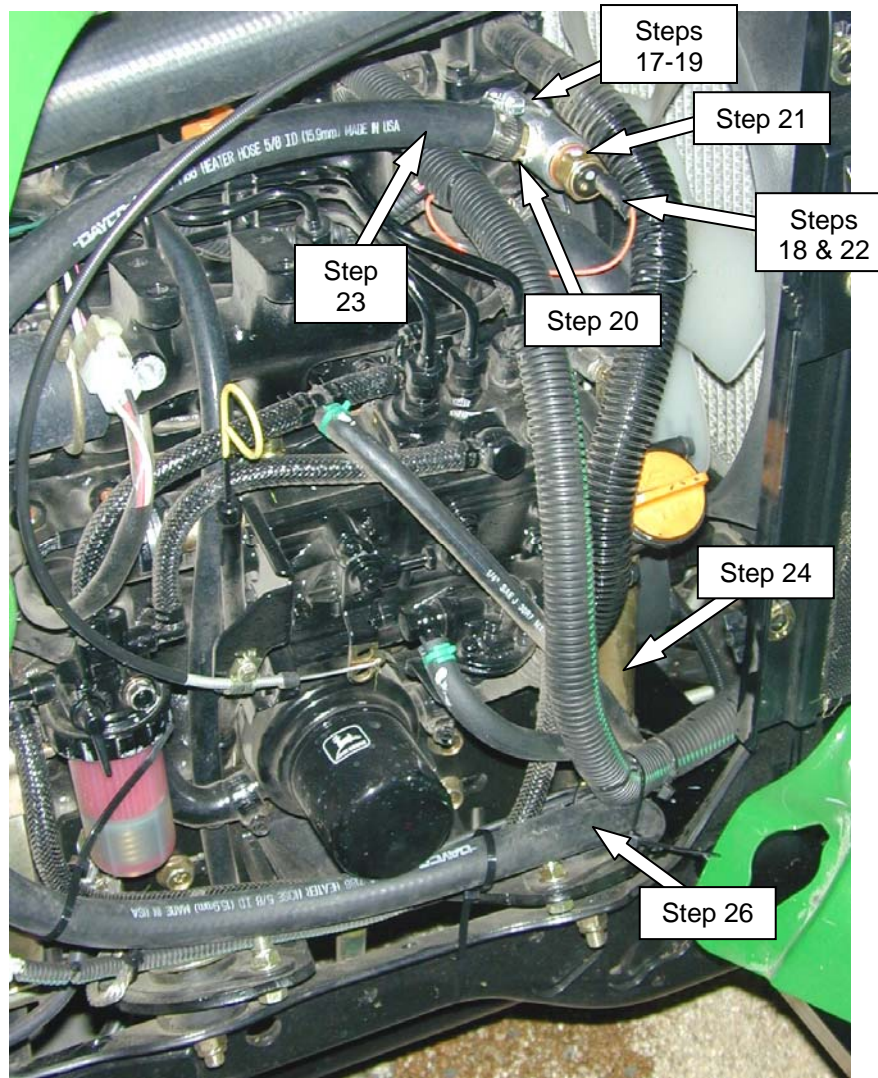

Figure 5
16. **If a spare coolant port is available from under the thermostat area**, remove port plug and install (1) 5/8" brass hose nipple with 16mm thread (15). **Skip to step 24.**
17. **If a spare coolant port is not available from under the thermostat area**, locate temperature sensor (Figure 5).
18. Unplug the temperature sensor wire and remove the sensor and seal from the thermostat area. Set a side for reinstallation in step 21 (Figure 5).
19. Install the aluminum fitting (13) into the thermostat housing with the rubber O-ring washer (14). **Do not over-tighten!** When the O-ring washer seats, orientate the fitting so that the side port is accessible (Figure 5).
20. Using thread seal tape, install the 5/8" brass hose nipple with 3/8" NPT (12) into the side port of the aluminum fitting (13) (Figure 5).
21. Reinstall the temperature sensor into the end port of the aluminum fitting (13) (Figure 5).
22. Re-connect the sensor wire to sensor (Figure 5).
23. Route 5/8" x 48" long heater hose (6) from the H-valve inner nipple to the either hose nipple, installed in step 16 or 20. Secure using a No. 10 hose clamp (10) (Figure 5).
24. Locate and remove 1/2" section out of the lower radiator hose for Y-fitting installation (9) (Figure 5).
26. Route the 5/8" x 44" long heater hose (5) from H-valve outer nipple to the 5/8" Y-fitting nipple (9). Insert hose onto nipple and secure using a No. 10 hose clamp (10) (**Figure 5**).